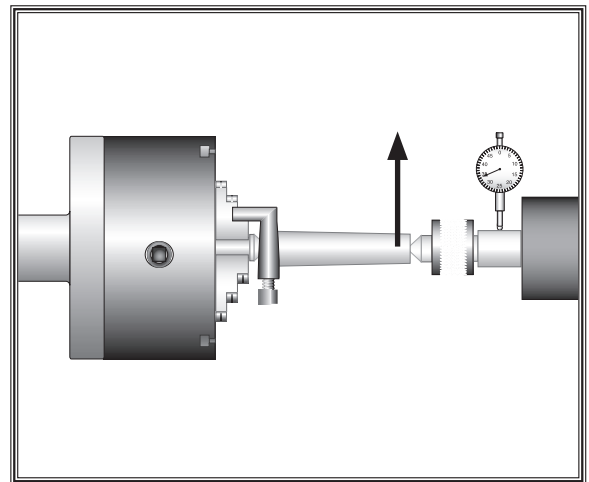

Figure 22. Tailstock adjustment option #2.
- If the stock diameter is thinner at the tailstock end, the tailstock needs to be moved away from you half the distance of the amount of the taper (see **Figure 22**).